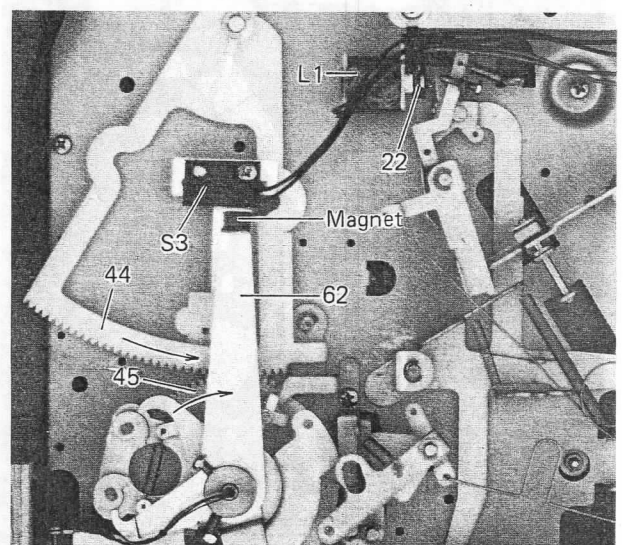

Figure 14
- (8) The Pickup Plate Assy (62) moves with the Tone Arm. When the Tone Arm comes to the final groove of the record disc, the Proximity-Switch (S3) is switched ON by the magnet on the Pickup Plate Assy. The Switch turns the Solenoid (L1) ON, pulling the Reject Lever (22). The Clutch Plate on the Main Gear is pushed out to turn the Main Gear. It returns the Gear (44) and Pickup Gear (45) to swing back the Tone Arm to the Arm Rest. (Figure 14)